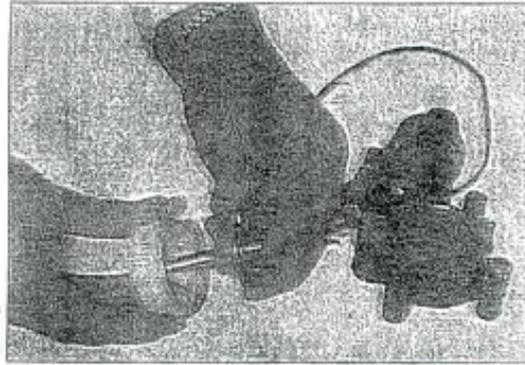

FIG. 7
- Re-install metal shaft onto plastic gear. (Fig. 7)